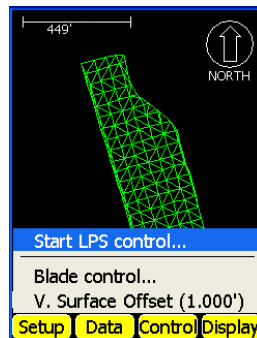

Figure 5-20. Start 3D LPS Control
14. Sight the GRT-2000 telescope on the LS-2000 prism again, and press **Control ▶ Start LPS Control** to start 3D LPS control (Figure 5-20).